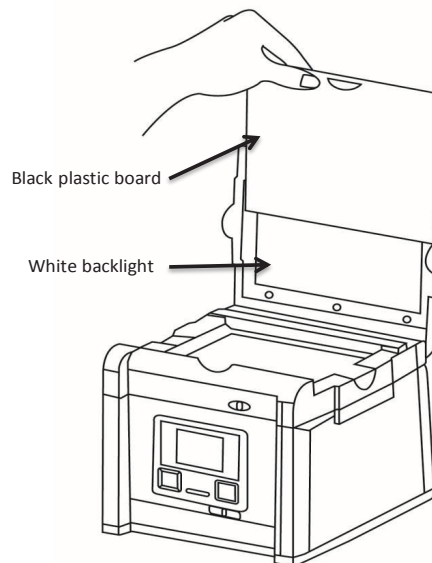

Figure 7
4. Slide the black plastic board into the groove of the white backlight to block the white light on the lid* (**Figure 7**).